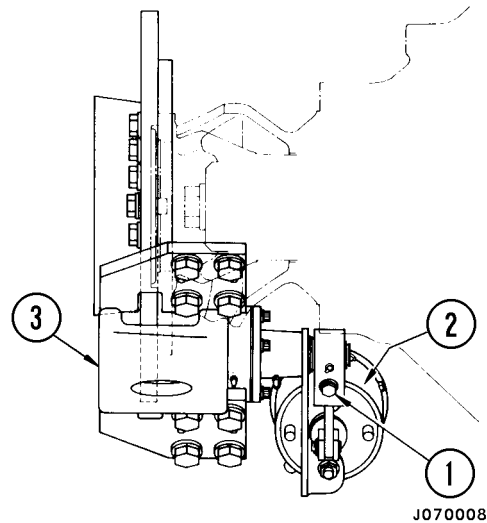
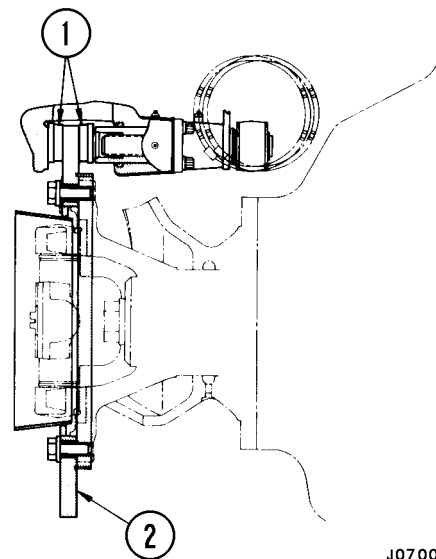
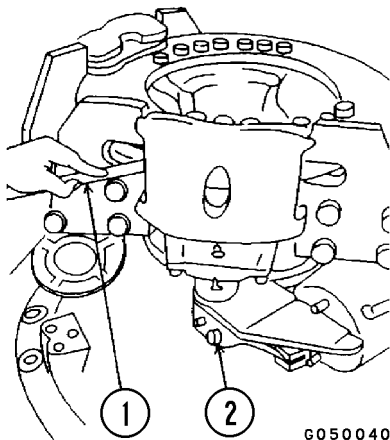

FIGURE 40-16. PARKING BRAKE ADJUSTMENT
FIGURE 40-17. PARKING BRAKE ADJUSTMENT
FIGURE 40-19. ADJUSTMENT CLEARANCE
1. Turn capscrew (1, Figure 40-16) clockwise and bring both pads (1, Figure 40-17) into contact with disc (2).
3. Turn capscrew (1, Figure 40-16) back from this position counterclockwise 360° ± 15° and measure clearance of caliper pad with feeler gauge (1, Figure 40-19).